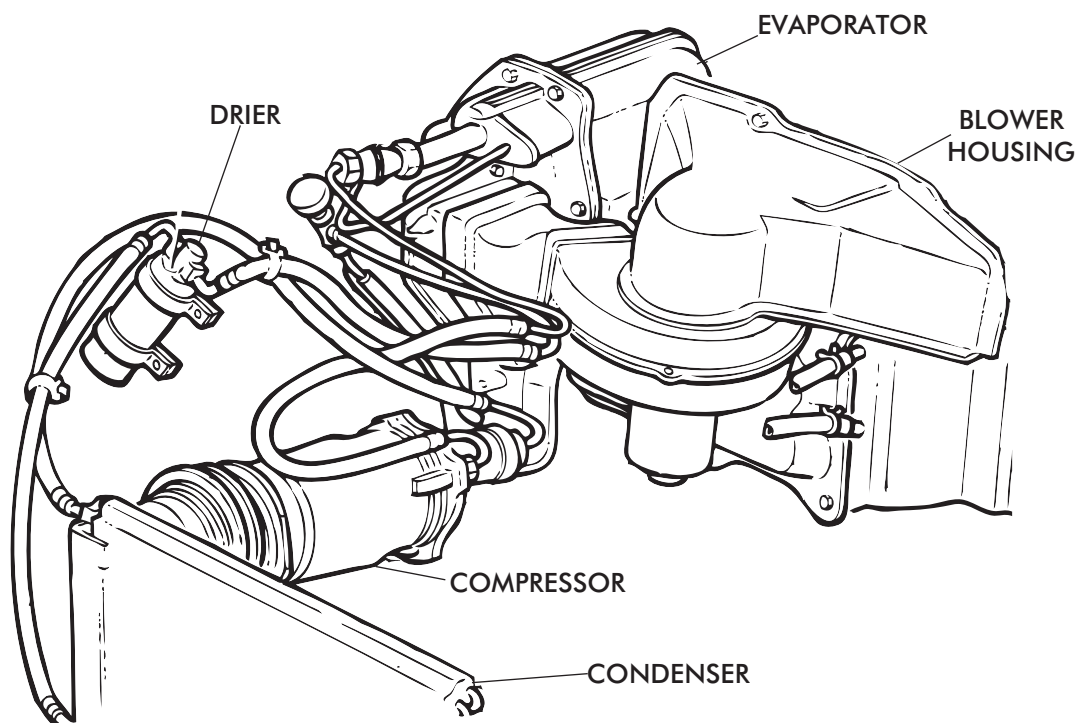

FIGURE 1
- OEM CONDENSER AND DRIER (DISCARD). SEE FIGURE 1.
- OEM A/C LINES FROM COMPRESSOR TO EVAPORATOR (DISCARD). SEE FIGURE 1.
- OEM COMPRESSOR AND BRACKET (DISCARD). SEE FIGURE 1.
- OEM HEATER HOSES, A/C HOSES, AND HARDLINES (DISCARD). SEE FIGURE 1.
- OEM A/C & HEATER WIRING/VACUUM HARNESS MOLDED GROMMET. SEE FIGURE 1.